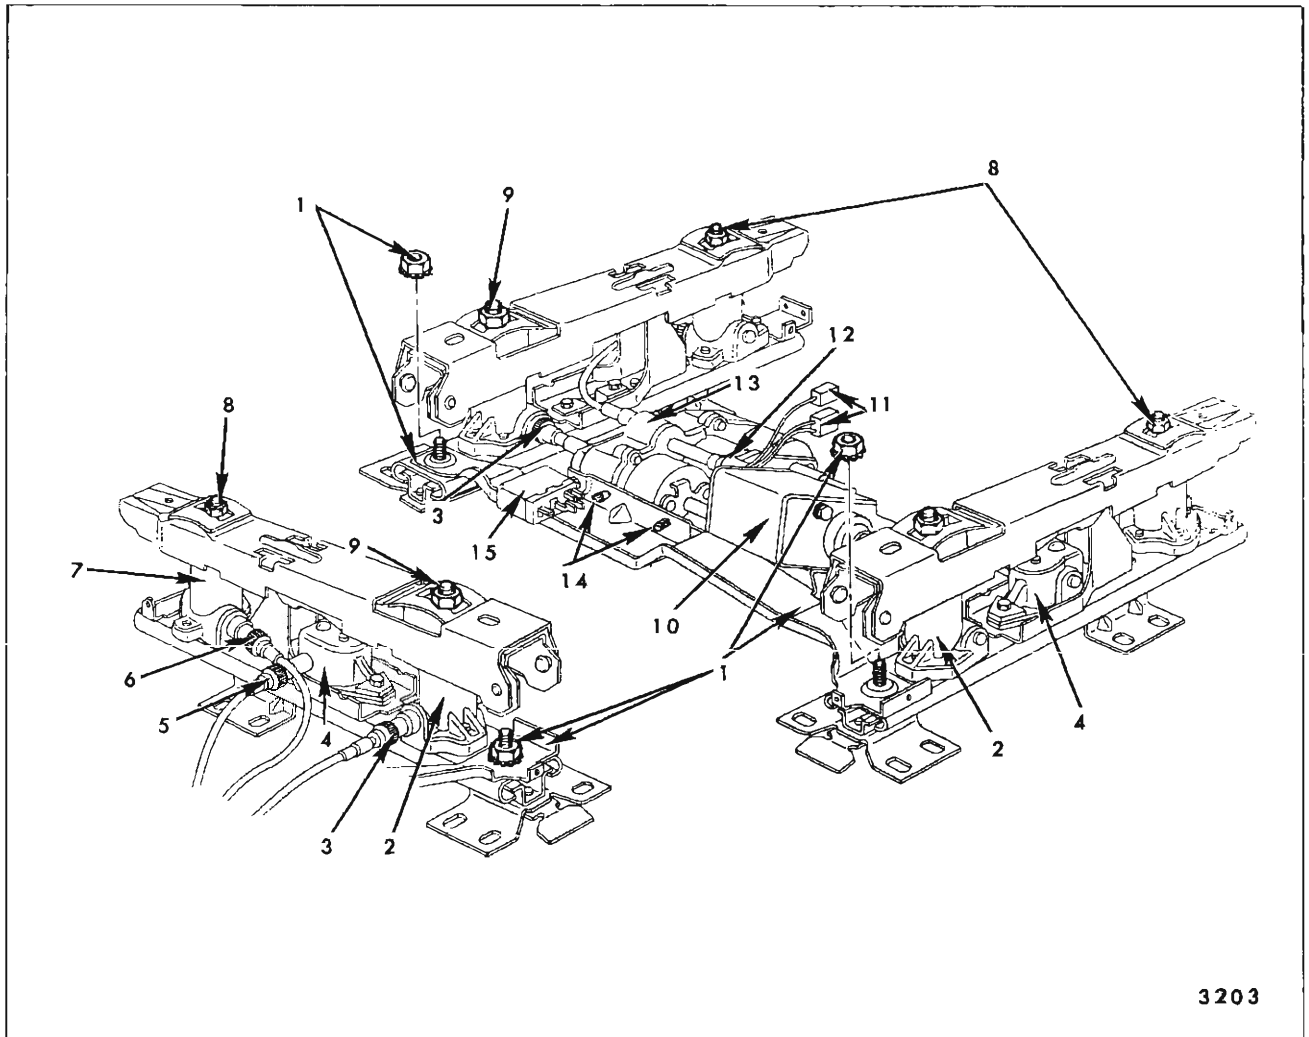

Fig. 15-22—Six-Way Seat Adjuster, Motor, Transmission, Cable and Support Assemblies - Buick, Oldsmobile and Cadillac 60-40 Seats
2. Detach motor wire harness connectors from motor relay (Fig. 15-22).
2. Detach drive cables from adjuster being removed (Fig. 15-22).
3. At adjuster being removed, remove nut securing motor and transmission support at front of adjuster (Fig. 15-22). Remove seat adjuster to seat frame front and rear attaching bolts; then, remove adjuster from seat assembly.
2. At opposite adjuster, detach drive cables from adjuster and remove nut securing motor and transmission support at front of adjuster (Fig. 15-22).